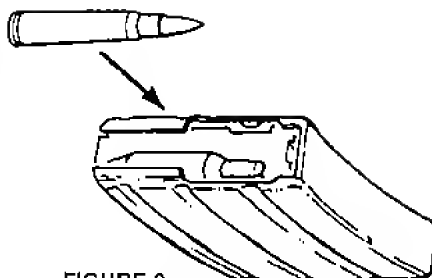

FIGURE 9
3. With short end of the magazine facing forward, place a round between the lips of the magazine with the bullet forward. Press the round down until it is held by the magazine lips. Place next round on top of previous round and repeat until desired number is loaded. (See Figure 9).